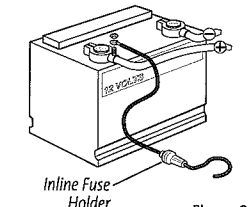

Figure 2
- 1b. If you need to wire the control head directly to a battery, obtain and install an inline fuse holder and a 1 Amp fuse (not included) for the protection of the unit (Figure 2).